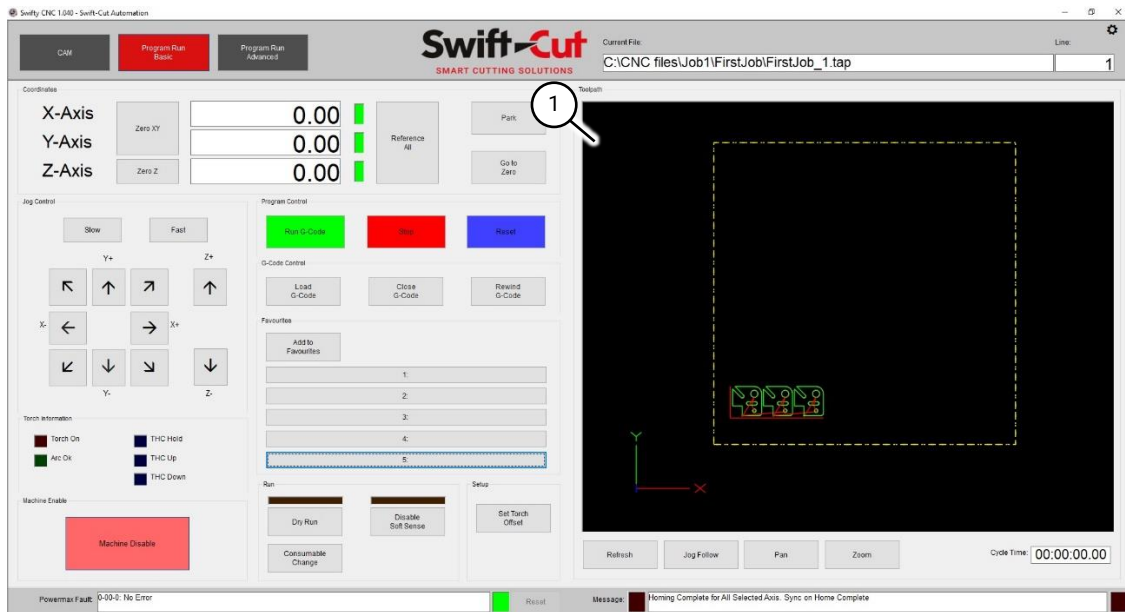

Fig 67 Tool path display
5. The file loads and is displayed in the tool path display (Fig 67 (1)).